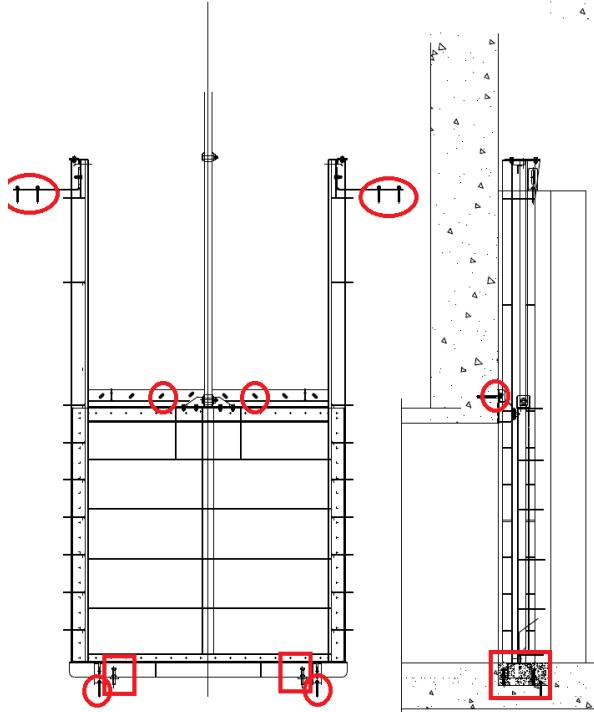

Figure 7
- Align the gate vertically adjusting the levelling bolts, placed in the invert of the frame (see Figure 7)
2. Insert all stem guides from the top of the stem extension. Align stem extension, and especially make sure it is aligned with the vertical axis of the opening (see Figure 7). The maximum misalignment shall be 3mm /0,12"